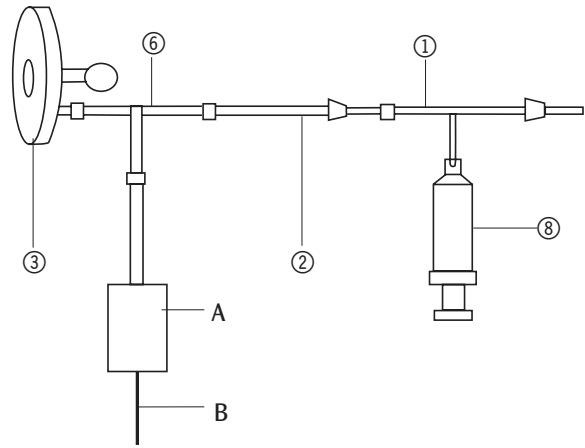

Fig.2
- Connect the hoses as in Figure 2.